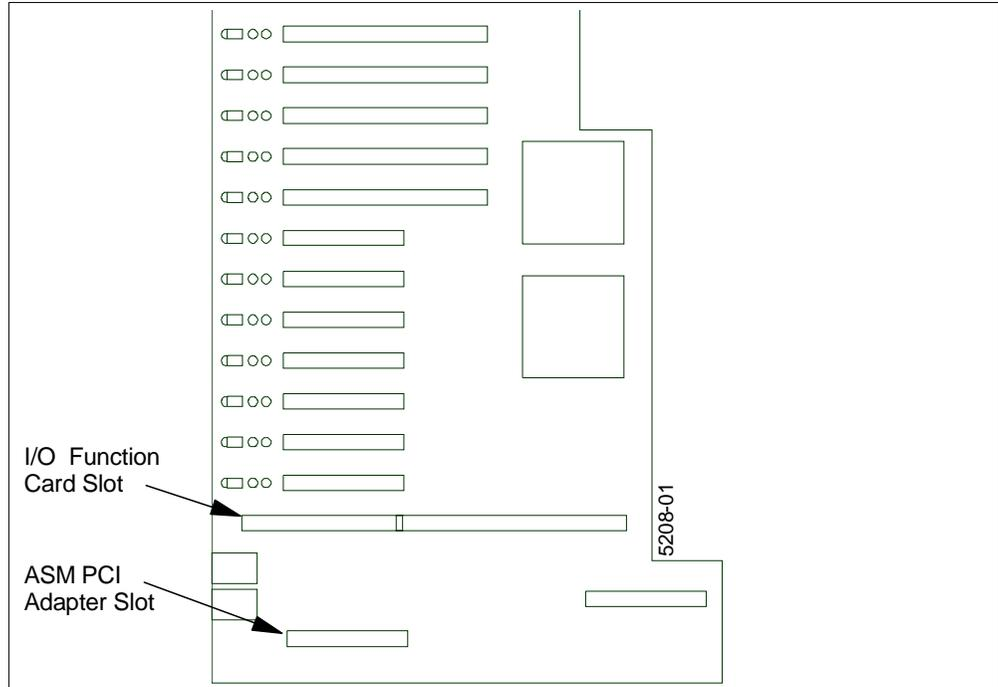

Figure 53. Netfinity 7000 M10 I/O Board
1. Open the Netfinity 7000 M10 and install the card into the ASM PCI adapter slot (see Figure 53 on page 70).